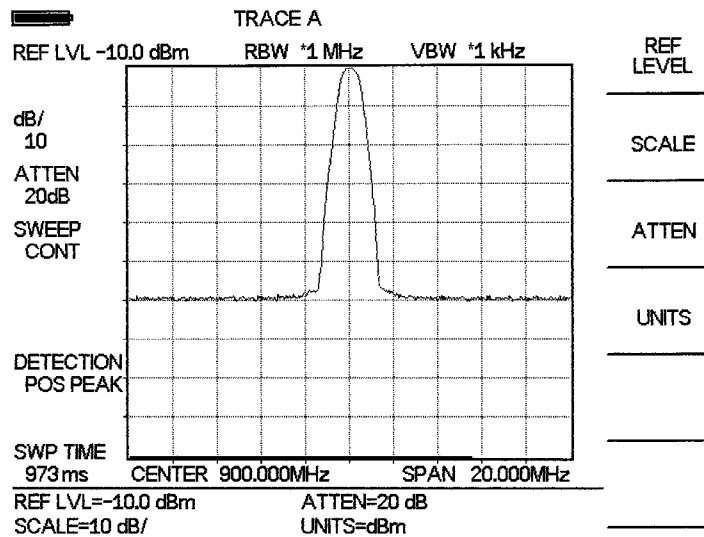

Figure 2-7 Reference Level set at -10 dBm
Generally, placing the signal peak at the reference level provides the best measurement accuracy. The following steps will adjust the signal peak to the reference level (Figure 2-7).
- Step 4.** Press the **+/-** key and **10** on the keypad and press **ENTER** to set the reference level to -10 dBm. Observe that the display resembles that shown in Figure 2-7.